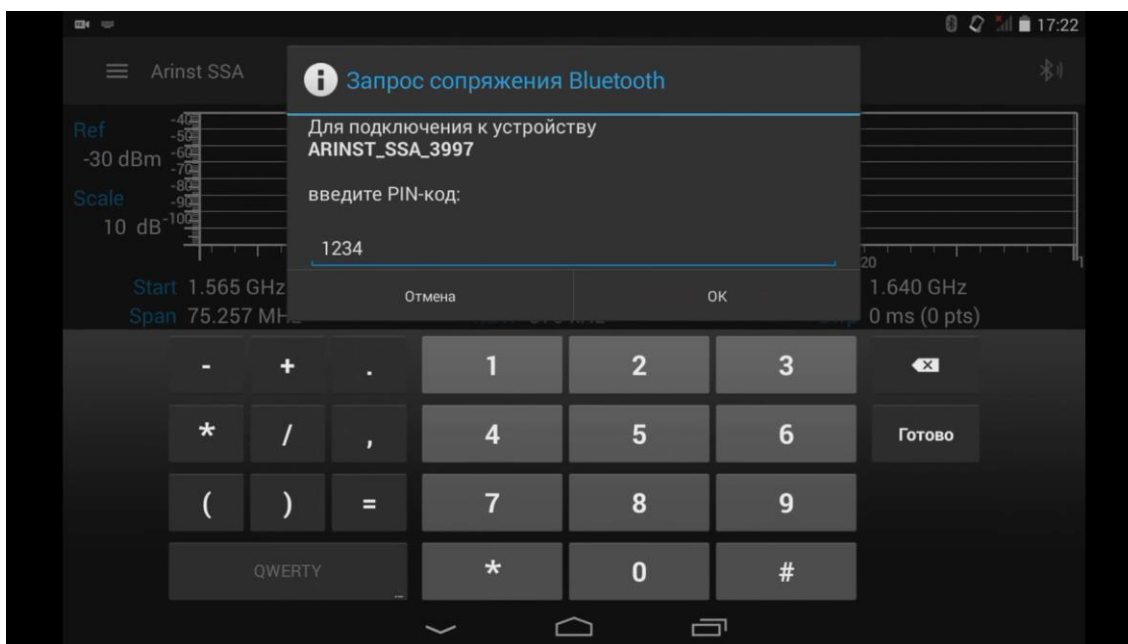

Figure 27 – Connecting a tablet / smartphone to the device via Bluetooth
8.2.5. In the upper right corner of the control program, click on the Bluetooth symbol. In the program window that appears, click the **Scan for devices** command. Select ARINST_SSA from the list of detected devices and enter the PIN code 1234 in the window that opens and click OK, as shown in figure 27.